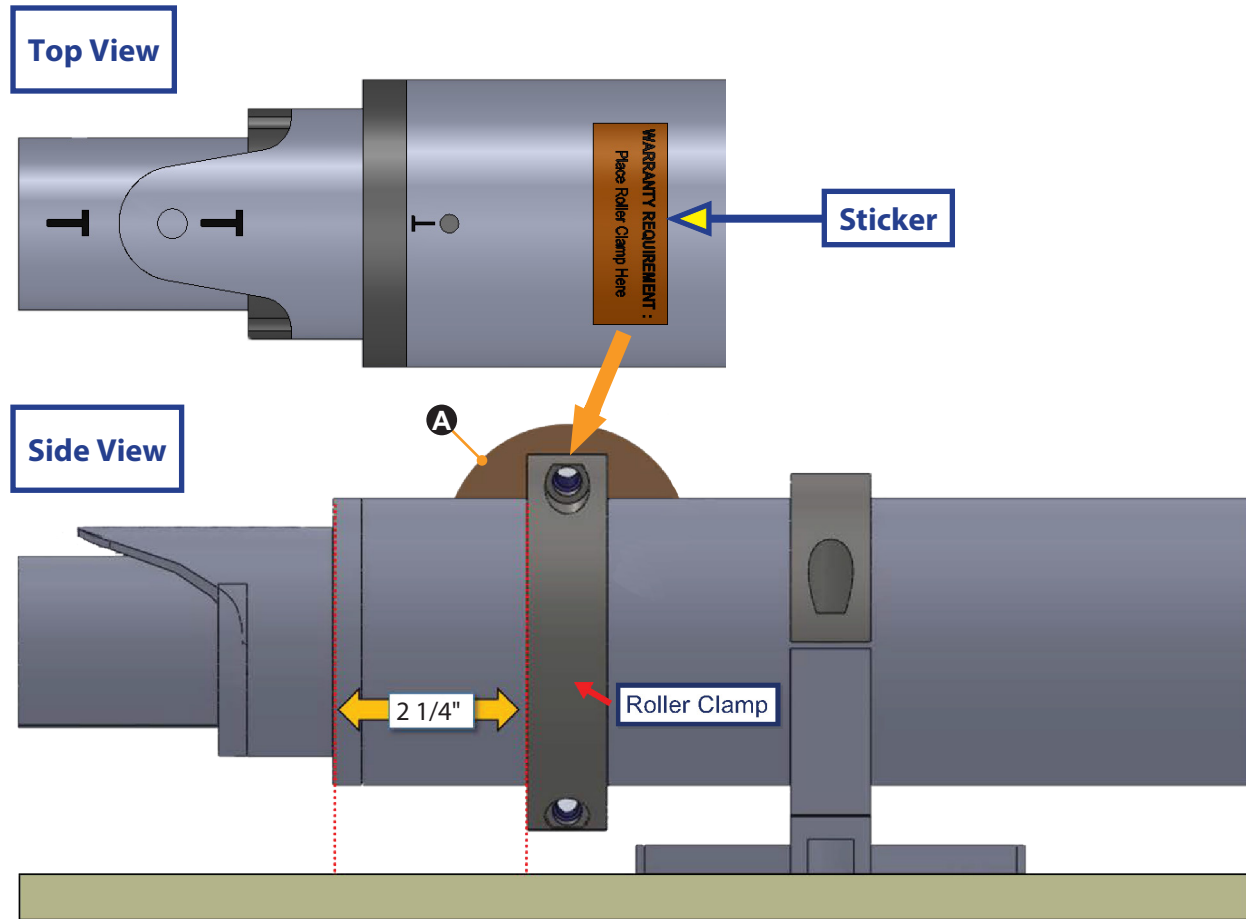

Fig.16
2. Make sure roller clamps are aligned over "Place Roller Clamp Here" stickers; 2 1/4" minimum in from the end of the actuator main tube (**Fig.16**).